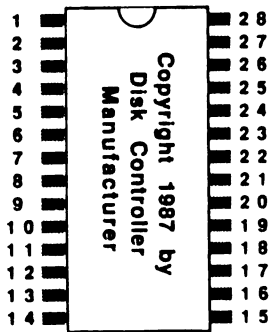
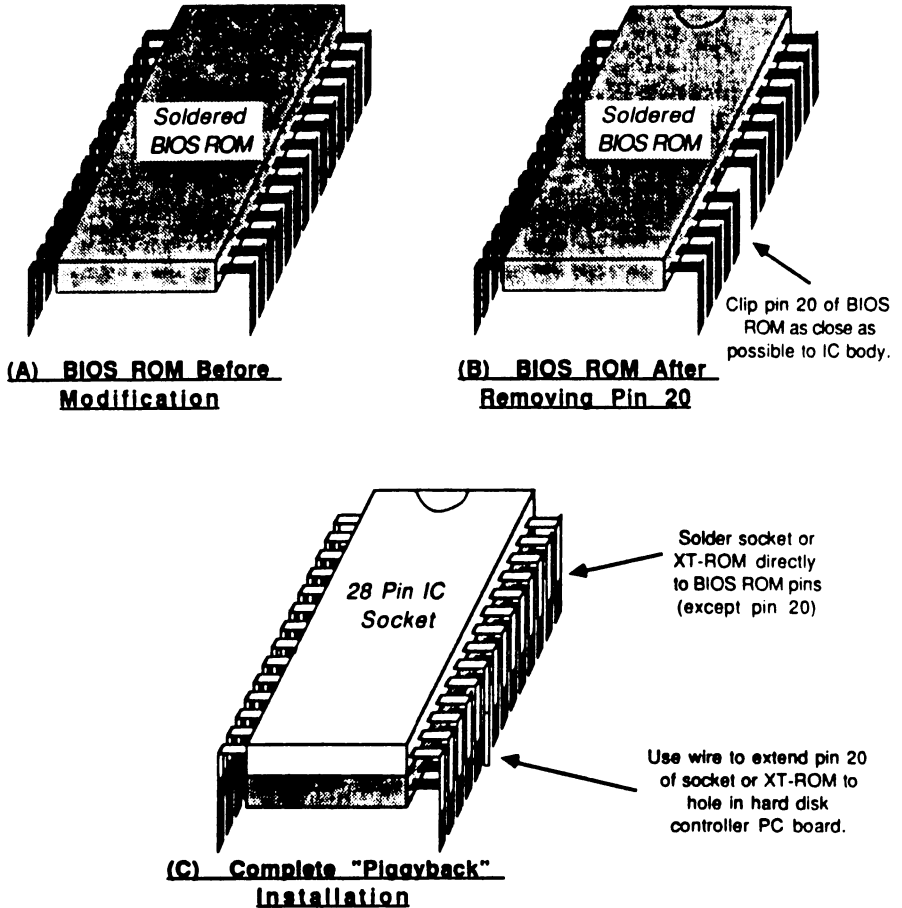

Figure 2 Detail View of BIOS ROM, Showing Pin Locations
Figure 3 Optional "Piggyback" EPROM Socket Installation
- 2) "Piggyback" a low-profile IC socket onto the existing BIOS ROM, as shown in Figure 2 and Figure 3. This requires that you clip one pin off of the BIOS ROM (using diagonal cutters), which neutralizes the ROM *PERMANENTLY*. This procedure also requires some skill at electronic assembly, but is much simpler and less error-prone than desoldering the BIOS ROM.